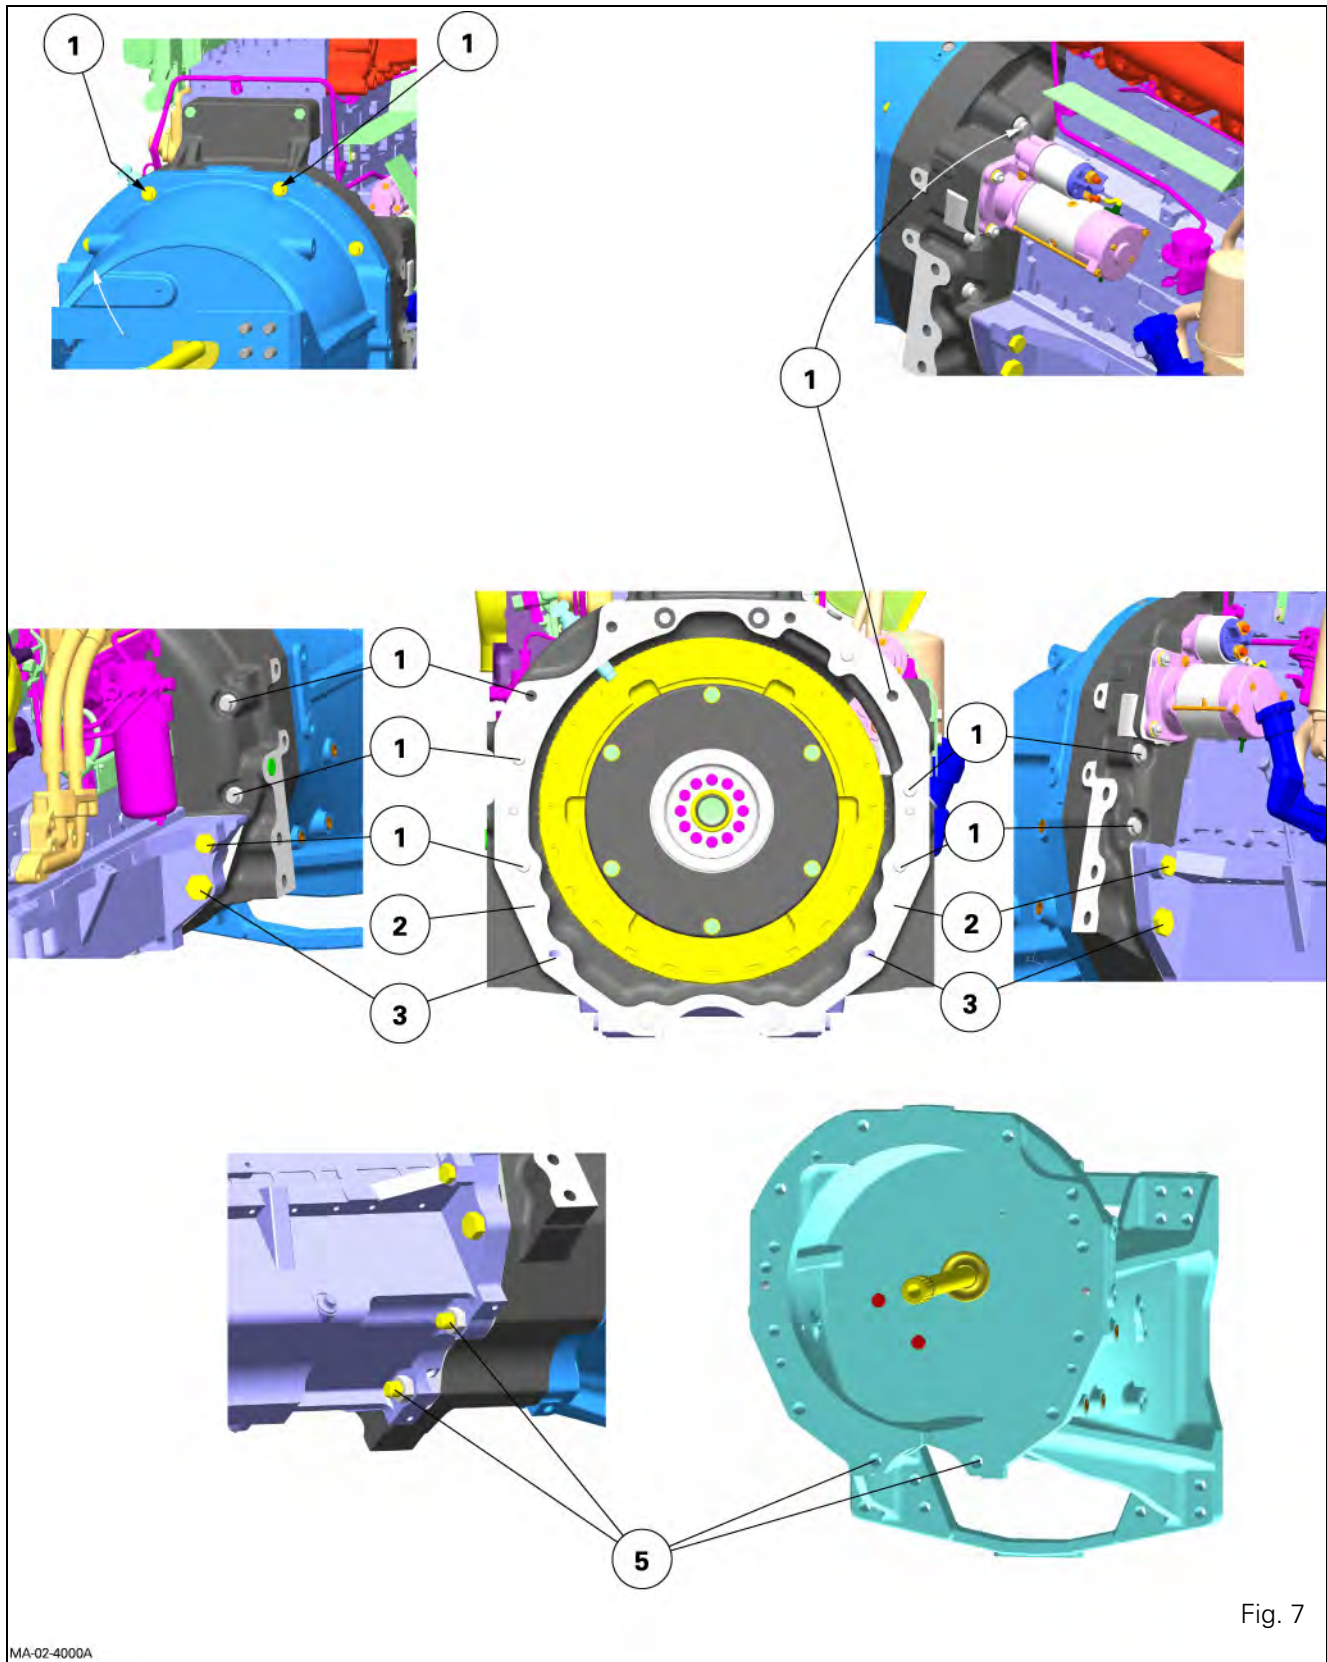

Fig. 7
21. Remove the screws and nuts attaching the engine to the gearbox (Fig. 7). Mark their lengths and positionings.